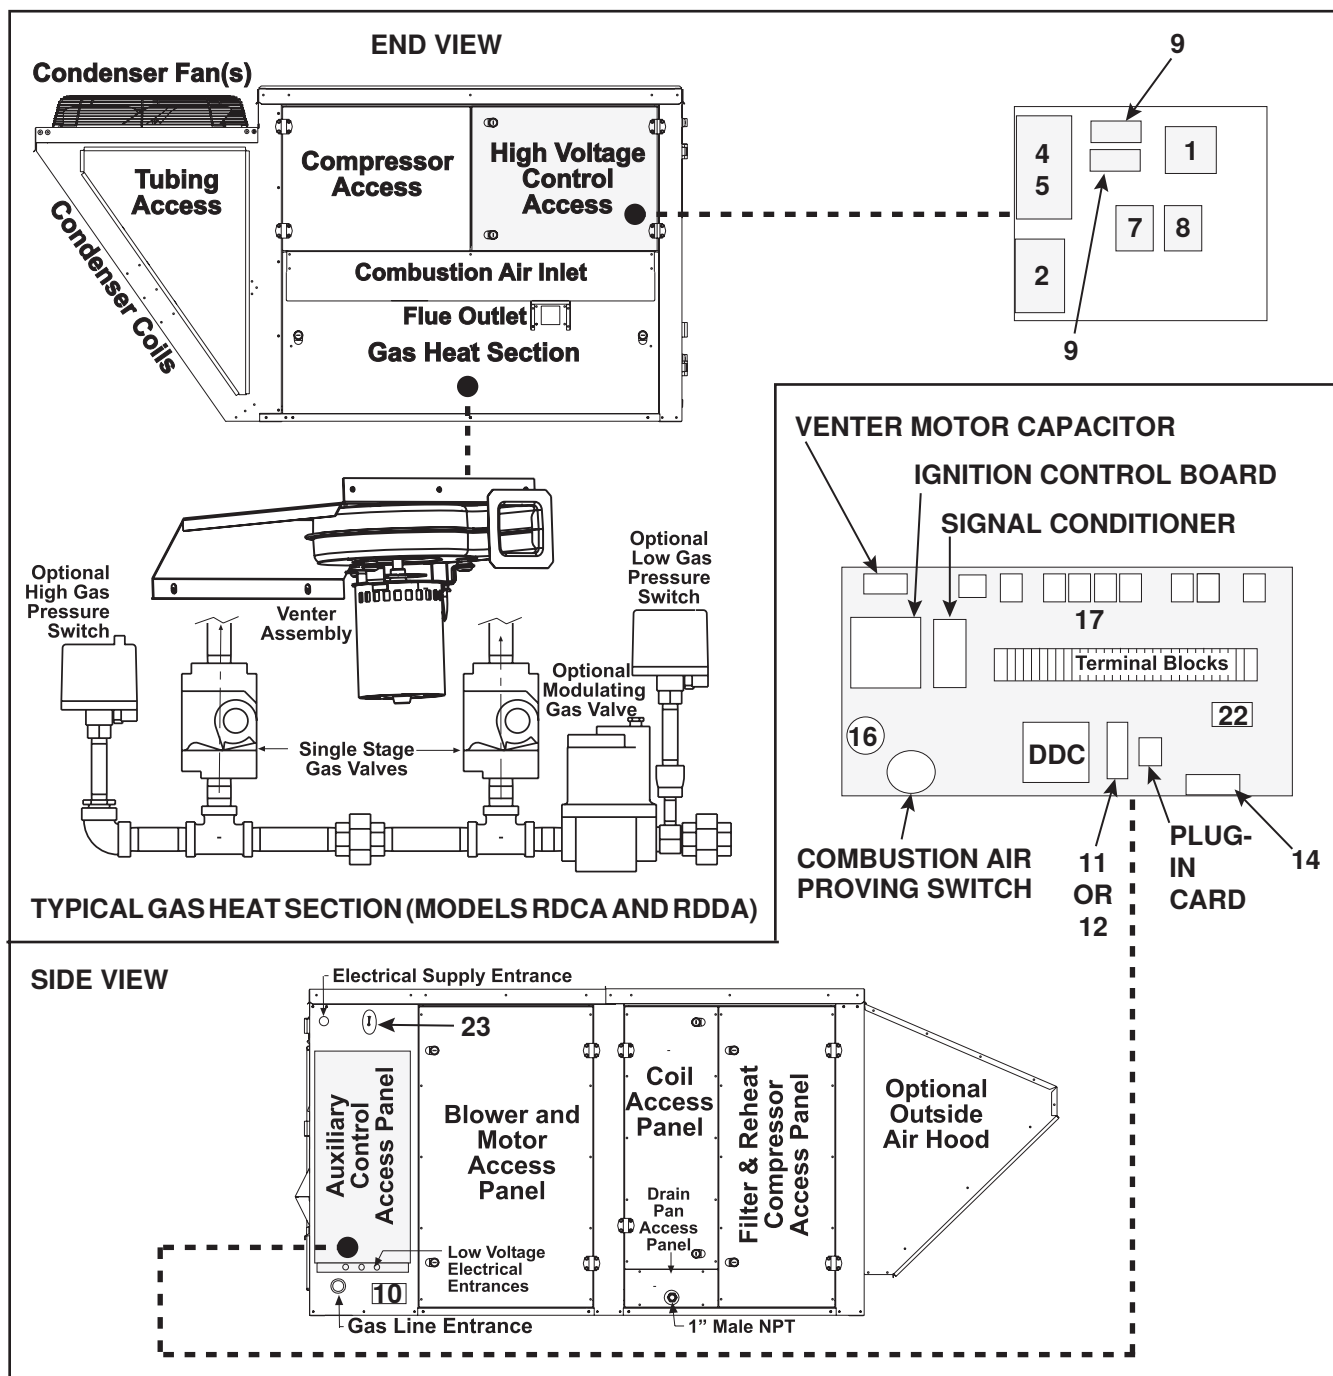
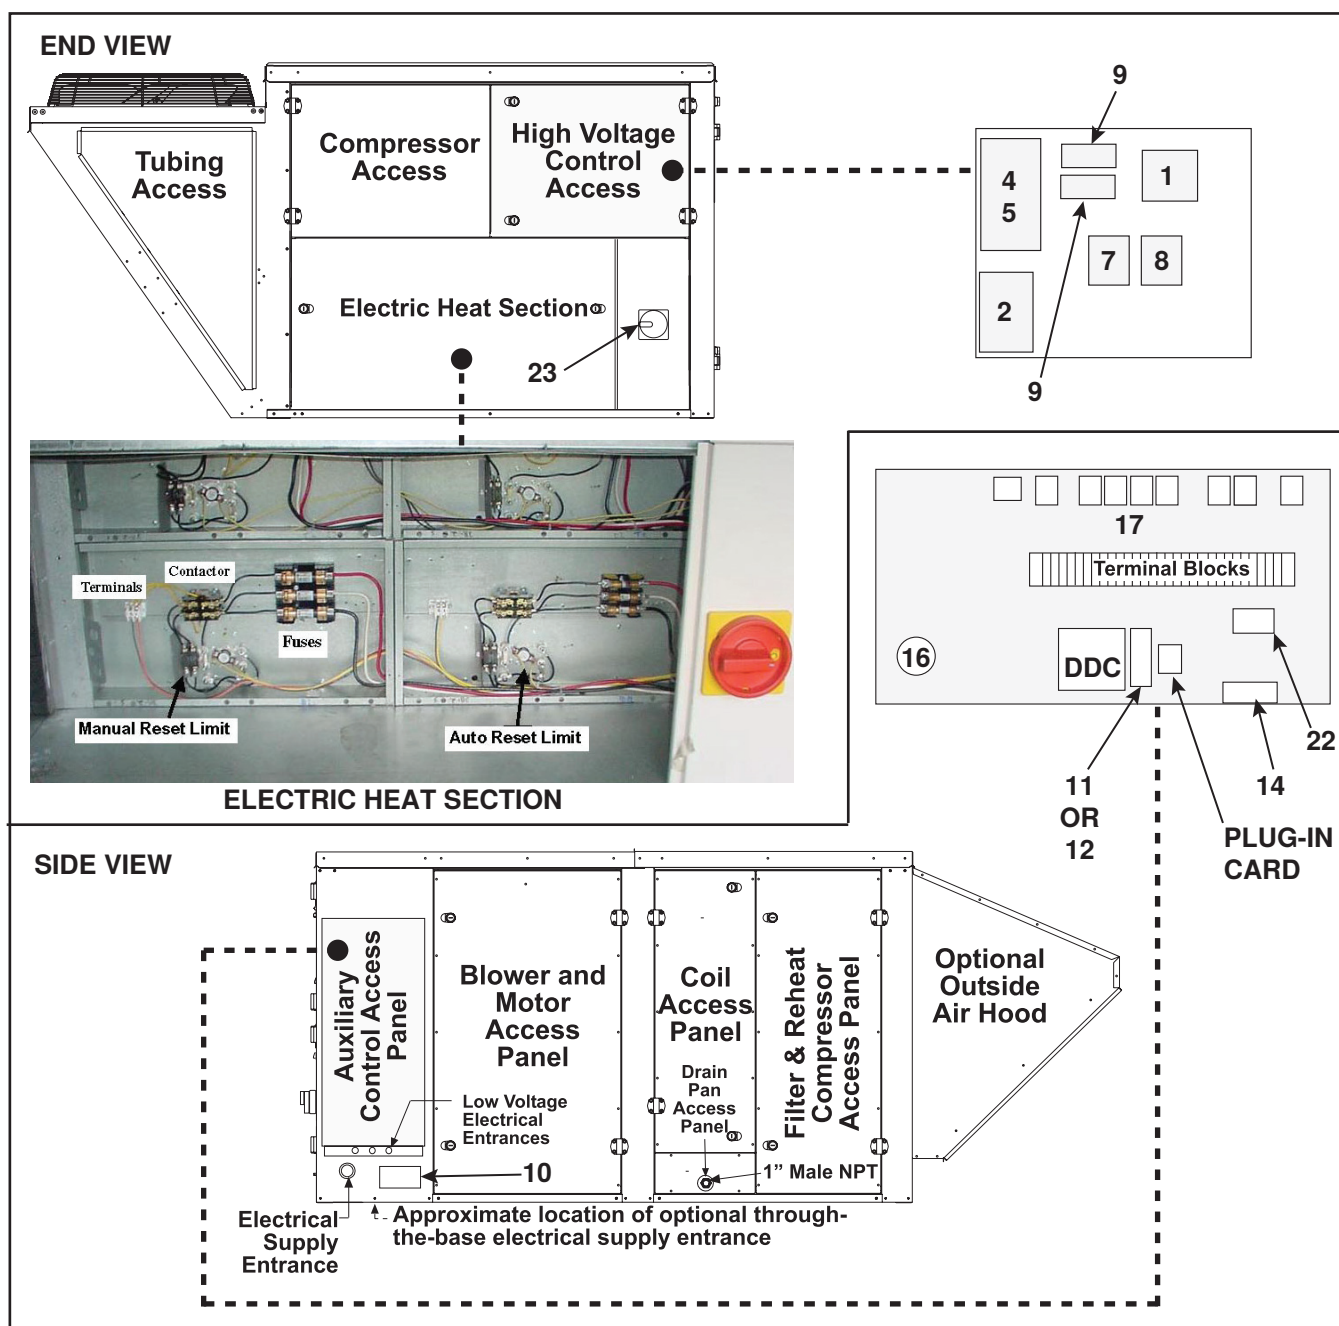

Figure 1. Electrical Component and Service Port Locations—Models of RCA, RDA, RDCA, and RDDA (Refer to Table 6)
Figure 2. Electrical Component and Service Port Locations—Models of RECA and REDA
- Figure 1 and Figure 2 show the locations of electrical components and service ports.